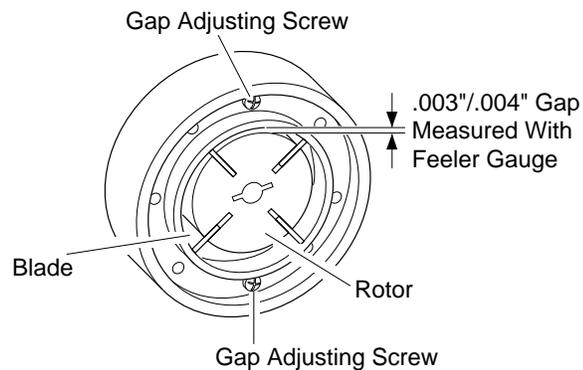

Figure 26 - Gap Adjusting Screw Locations
9. Check gap on rotor. Adjust to .003"/.004" if needed (see Figure 26).